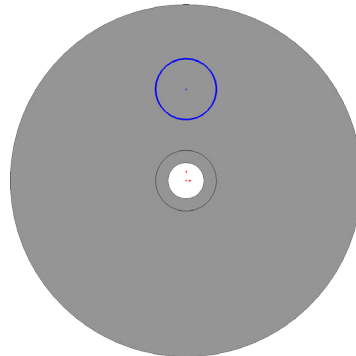

Fig. 13
Step 3. Sketch a circle for the hole above the Origin , **Fig. 13**.